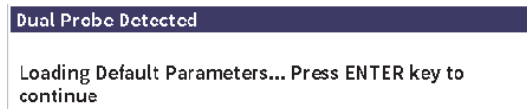

Figure 11-33 Probe detected dialog box
If an Olympus thickness gage dual transducer is connected to the EPOCH 6LT, a dialog box will prompt you to press the Enter key to continue (see Figure 11-33 on page 194).
9. If using a transducer without the center pin, select a probe on the **Transducer Setup** page after activating the Corrosion Module (see Figure 11-33 on page 194).